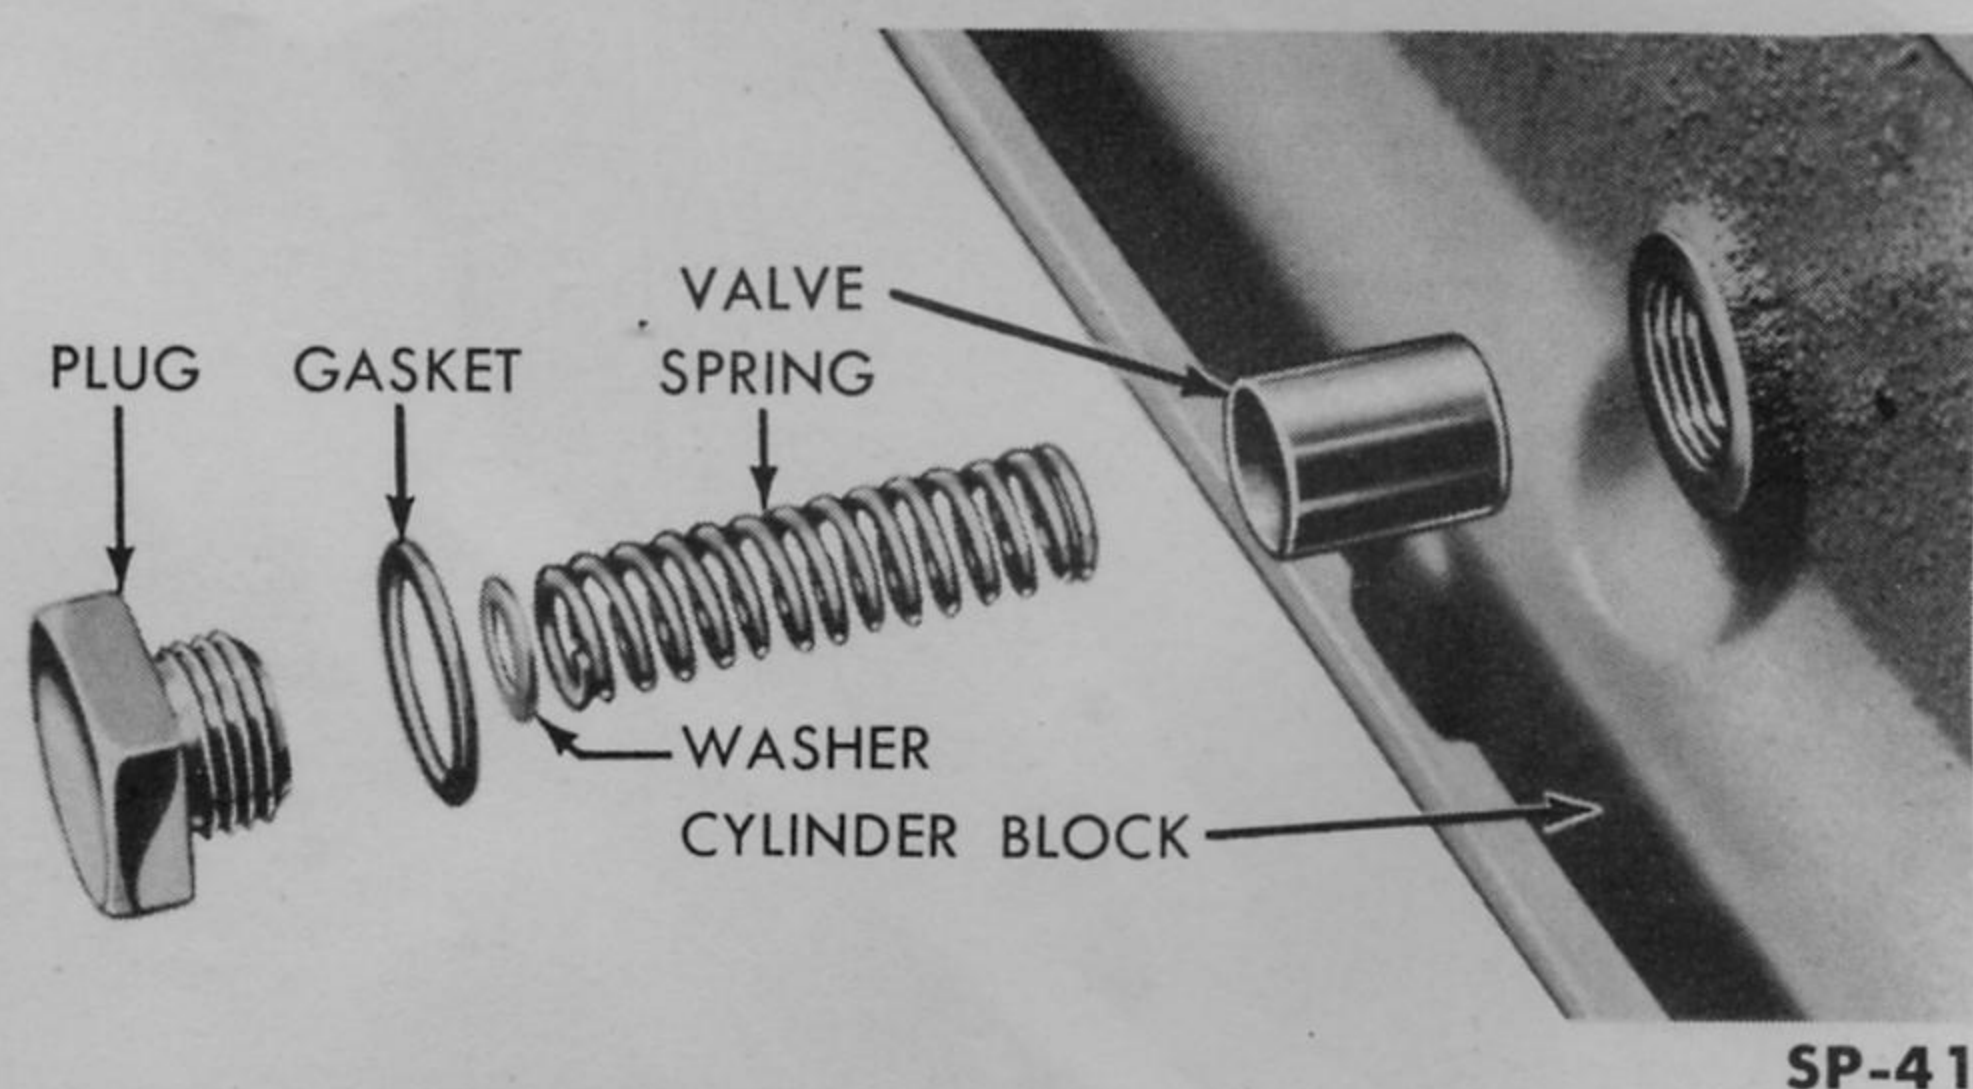

Fig. 32—Oil Pressure Relief Valve—Exploded View
x. REMOVE OIL PRESSURE RELIEF VALVE. The oil pressure relief valve is located in the right side of the cylinder block below the tappet chamber cover and consists of the parts shown in Fig. 32.